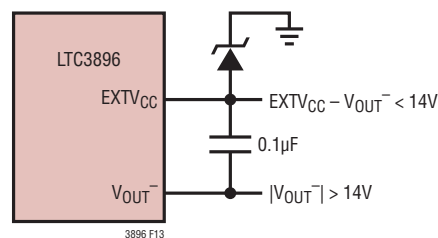

Figure 13. Using a Zener Diode Between $EXTV_{CC}$ and Ground
4. $EXTV_{CC}$ connected to ground through an external Zener diode. If the output voltage is more negative than -14V , a Zener diode can be used to drop the necessary voltage between ground and $EXTV_{CC}$ such that $EXTV_{CC}$ with respect to V_{OUT} remains below 14V (Figure 13). In this configuration, a bypass capacitor from $EXTV_{CC}$ to V_{OUT} of at least $0.1\mu\text{F}$ is recommended. An optional resistor between $EXTV_{CC}$ and V_{OUT} can be inserted to ensure adequate bias current through the Zener diode.